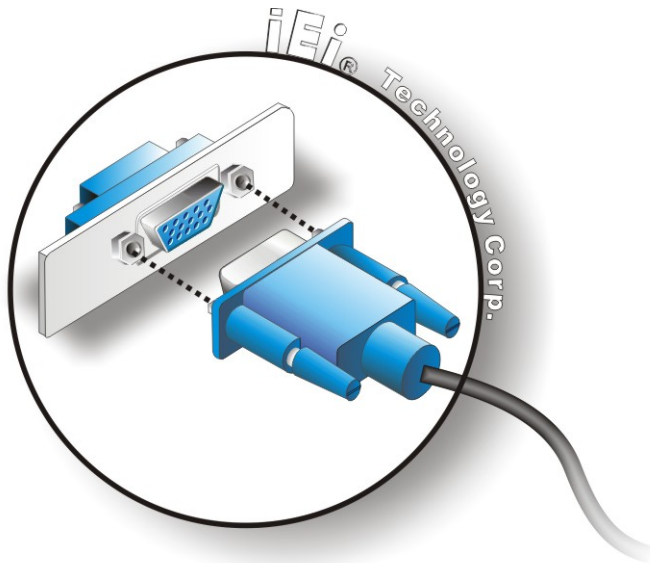

Figure 4-22: VGA Connector
- Step 3:** **Insert the VGA connector** Once the connectors are properly aligned with the insert the male connector from the VGA screen into the female connector on the NANO-PV-D4252/N4552/D5252. See Figure 4-22.